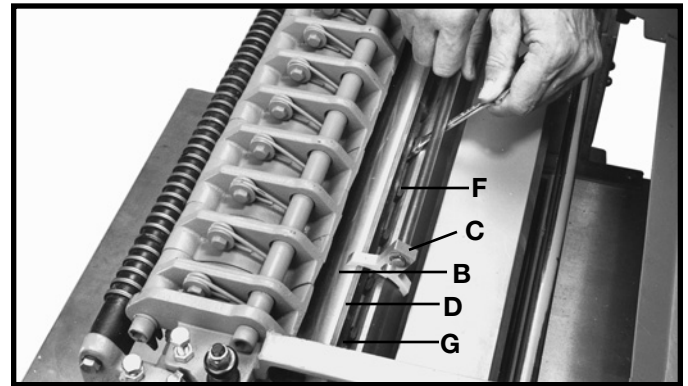
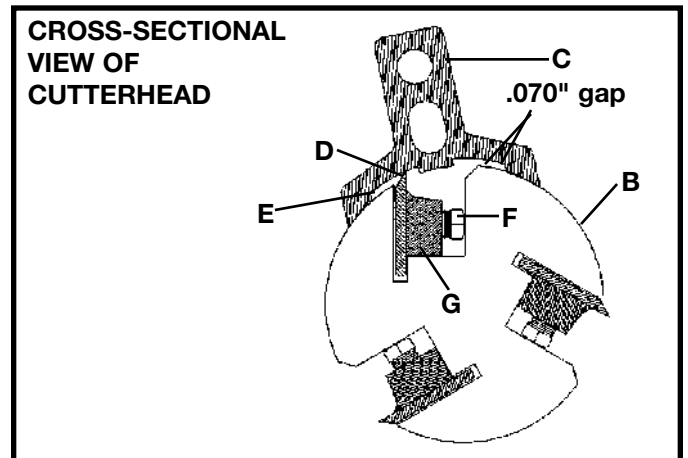

Fig. 34
Fig. 35
3. Carefully place knife setting gage (C) Figs. 34 and 35, so the gage is positioned on the radiused section of cutterhead (B). When set correctly, knife (D) Figs. 34 and 35, should just contact the bottom of inset section (E) Fig. 35 of knife setting gage (C) which is set at .070". Check the remaining knives in the same manner.
4. If an adjustment to one or all three knives is necessary, slightly loosen the ten locking screws, one of which is shown at (F) Fig 34 and Fig. 35, just enough to relieve stress in cutterhead (B) and not disturb the knife setting.
5. With knife setting gage (C) Figs. 34 and 35 still in place on the cutterhead, continue to adjust the knife that must be reset by turning the ten knife locking screws **CLOCKWISE** until knife locking bar (G) becomes loose. Lifter springs (not shown) located under the knife will automatically raise the knife until it comes in contact with the gage (C). Then snug up the knife locking bar (G) Fig. 34 and Fig. 35, by turning the ten screws (F) **COUNTERCLOCKWISE**. **IMPORTANT: AT THIS TIME, ONLY TIGHTEN THE KNIFE LOCKING BAR (G) JUST ENOUGH TO HOLD THE KNIFE (D) IN POSITION INSIDE THE CUTTERHEAD SLOT.**
7. After all the knives are positioned in the cutterhead with the knife locking screws snug, turn each of the ten locking screws (F) Fig. 34, **COUNTERCLOCKWISE UNTIL THE KNIVES ARE SECURE IN THE CUTTERHEAD.**
9. Carefully place knife setting gage (C) Fig. 34, so it is positioned on the radiused section of the cutterhead (B) Fig. 35.
10. Loosen knife locking bar (G) Figs. 34 and 35, by turning ten knife locking screws, one of which is shown at (F) **CLOCKWISE** and carefully remove locking bar (G), knife (D), and springs (not shown) which are located under the knife, from the cutterhead. Remove the remaining knives in the same manner.
12. Carefully replace the springs (not shown), knives (D) Fig. 35, and locking bars (G) into the three slots in the cutterhead (B). **IMPORTANT: WHEN REPLACING LOCKING BARS (G) FIG. 35, AGAINST KNIVES (D) AS SHOWN IN THE CROSS SECTIONAL ILLUSTRATION, MAKE CERTAIN LOCKING BARS (G) ARE INSTALLED AS SHOWN, WITH LOCKING SCREWS (F) HOLDING KNIVES (D) PROPERLY INSIDE THE CUTTERHEAD SLOTS. TURN ALL KNIFE LOCKING SCREWS, ONE OF WHICH IS SHOWN AT (F), COUNTERCLOCK-WISE, JUST ENOUGH TO HOLD THE KNIVES IN THE CUTTERHEAD.**